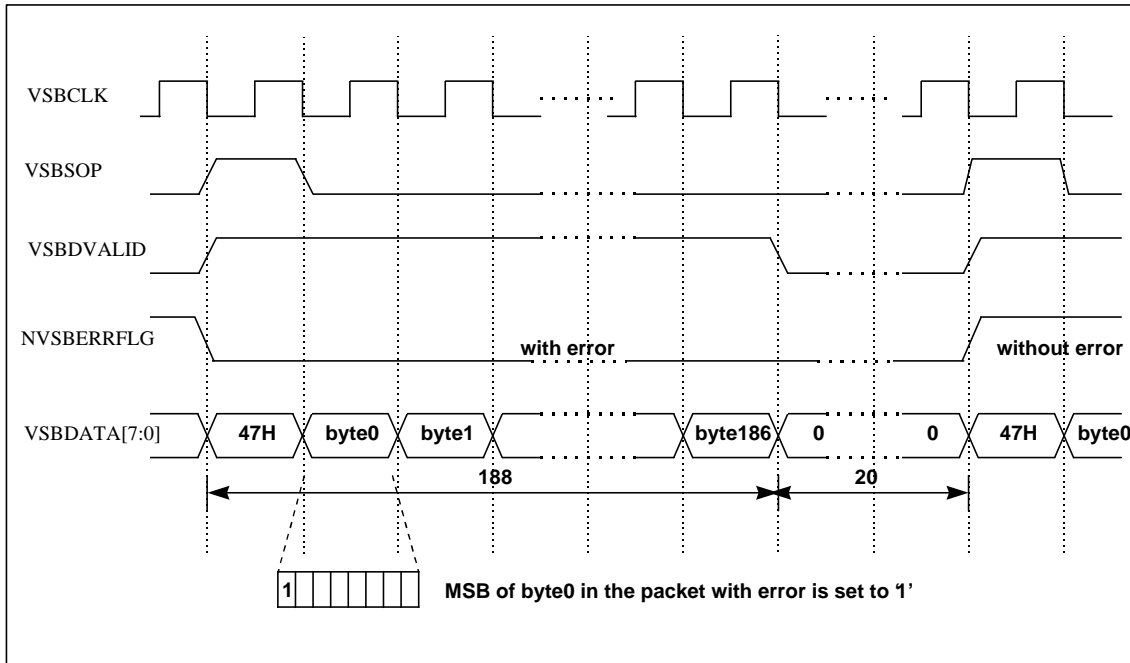

Figure 6.6.8 I/F to Transport Demultiplexer when Register64[7:0] is set to Default Value
- 5) the VSBCLK signal is not suppressed during VSBVALID='0' interval. See Fig. 6.6.8.